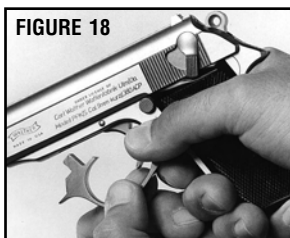
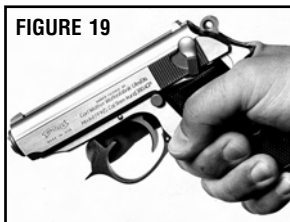

FIGURE 18
FIGURE 19
- With the pistol unloaded, hold the grip firmly in one hand and put your index finger along the side of the trigger guard. With your other hand, pull down the front of the trigger guard (Figure 18). When the front of the trigger guard comes out of the frame, press it sideways with your index finger to keep it from springing back up into the frame (Figure 19).